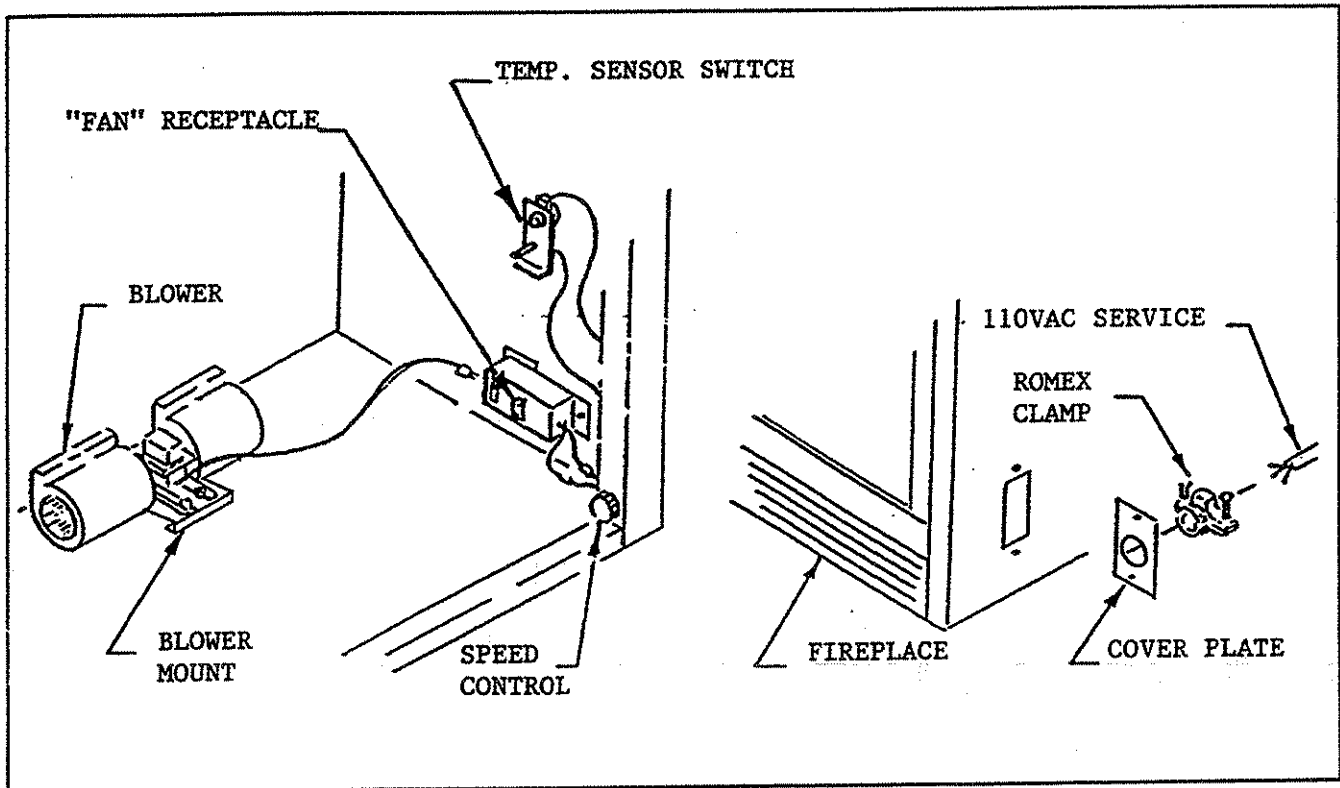

FIGURE 21
These fireplaces have factory installed Electrical Junction Boxes. The access hole for connecting the 110 VAC service wires is found on the lower front exterior side of the unit. See Figure 21.
2. **OPTIONAL ACCESSORIES.** Optional fan and remote control kits require 110-120 VAC which has been wired to the fireplace junction box. See Figure 21 - FAN WIRING DIAGRAM.
2. **OPTIONAL ACCESSORIES.** Optional fan and remote control kits require 110-120 VAC be wired to the factory installed junction box before the fireplace is permanently enclosed. See Figure 21-FAN WIRING DIAGRAM.